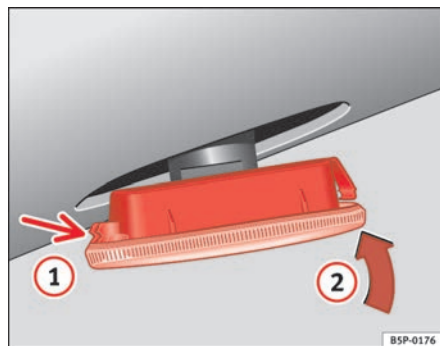

Fig. 169 Side indicator
- First place the indicator in the opening in the bodywork, fixing the tabs ⇒ fig. 169, arrow ①.
- Insert the indicator as shown by the arrow ② ⇒ fig. 169. ■